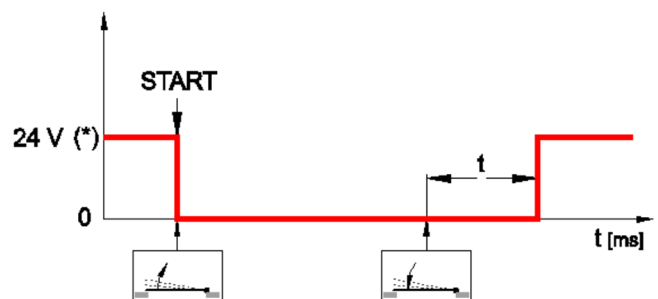

Fig. 33.
3. Connect the two program switch terminals so the two cards can communicate and the operator functions correctly. (Fig. 33)
4. Re-assemble all the components for each one of the Vectors disconnecting the logic settings program switch from the slave operator (B).
6. Connect the two program switch terminal plates so the two cards can communicate and so that the operator operates correctly. (Fig. 33)
The VECTOR operator central control is set to be able to operate in interlocking mode through a connection to an electronic central control of the same class. With the interlocking function, the opening of a door can be done independently, if the other is not moving, that is, if it is not in a movement phase. To interlock two operators follow these steps (Fig. 33):